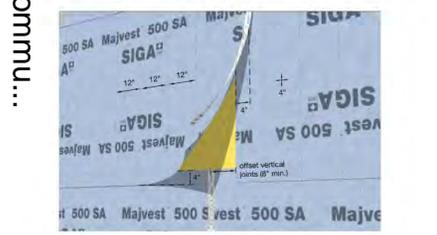

Figure 2
- minimum vertical and horizontal overlap is 4" (see Figure 2)